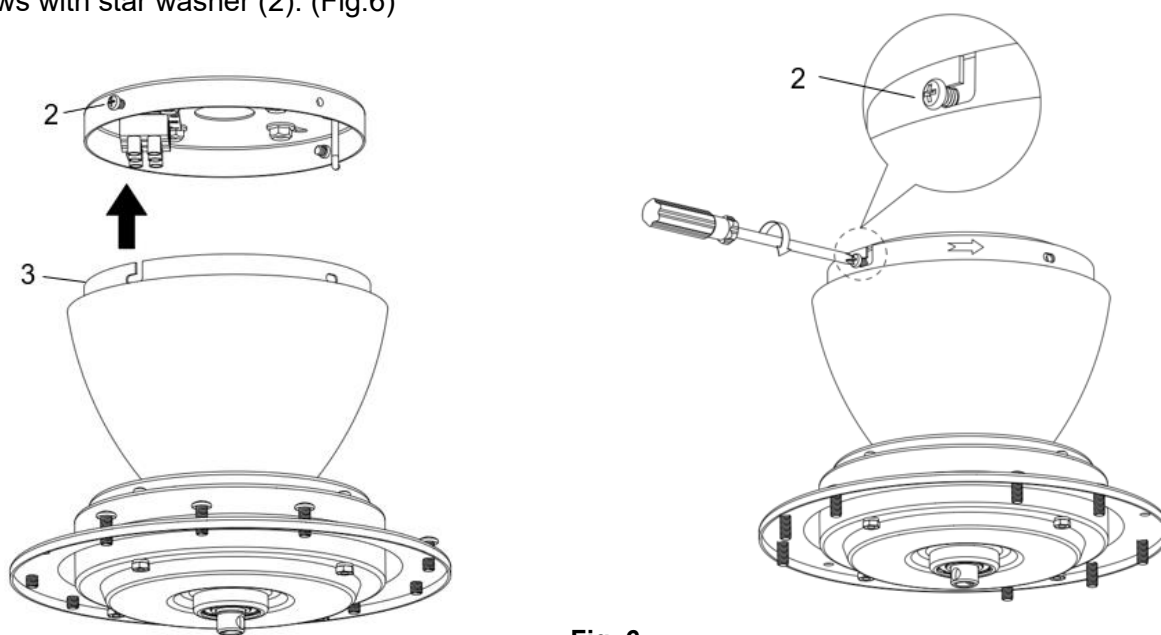

Fig. 6
- Lift the hanging canopy (3) of the fan assembly up to the mounting bracket and let the L-shape slot on the hanging canopy go through the two canopy screws with star washer (2). (Fig.6)
- Turn the hanging canopy (3) until it locks in place at the end section of the L-shape slot, ensure the star washer are between the hanging canopy (3) and screw head. Secure it by tightening the two canopy screws with star washer (2). (Fig.6)